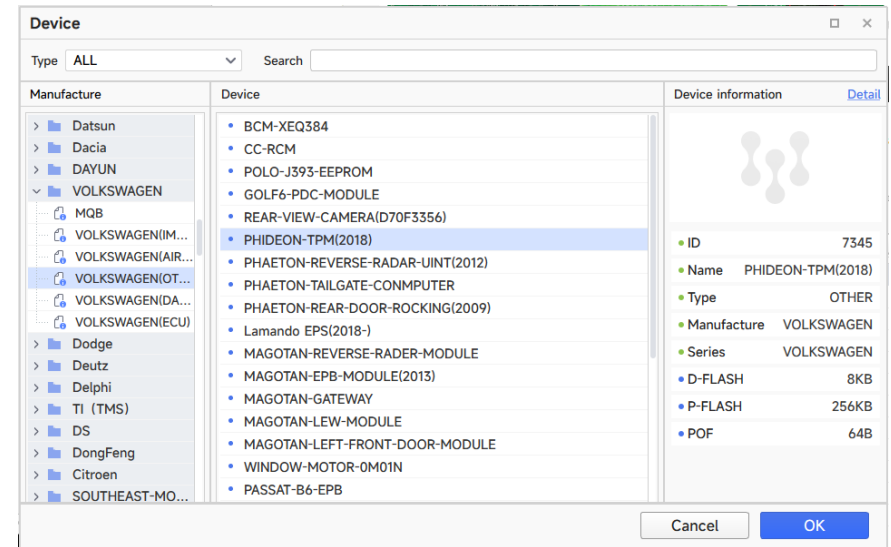

Figure 7.3.1
1. Find the option corresponding to the tire pressure module, as shown in Figure 7.3.1.